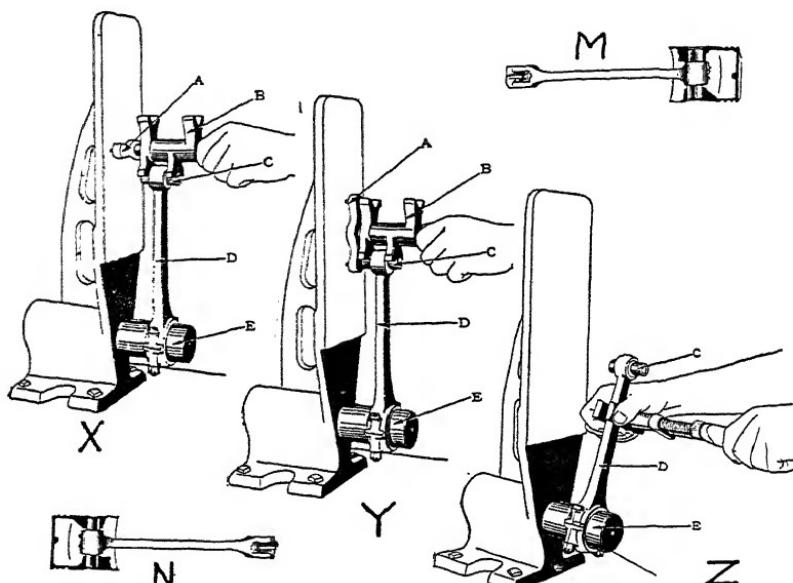

Fig. 15. X—Checking Rod for Twist
**Aligning Connecting Rods.** Connecting-rod aligning jigs are used in all shops. These are supplied in a variety of forms. The fixture shown at X, Y, and Z in Fig. 15 consists of an arbor E which is at right angles with the surface of the plate. The connecting rod to be tested is fitted on to the arbor. Jigs designed to be universal have varying sized arbors or sleeves which may be fitted over the arbor, so that any standard rods may be tested with one fixture. In Fig. 15, A points to a little device which is used to show twist
In testing for connecting-rod side bend or offset, the jig is used as shown at *Y* in Fig. 15 where the part of the fixture *A* has been turned at right angles to the former position shown at *A* in *X*. In this position the two dowels should engage the surface of the jig at exactly the same time, making certain of course that the part *B* is held in firm contact with the piston pin *C*. If the connecting rod is bent, the direction of bend will be indicated by whether the bottom or top pin strikes the surface first. In case the connecting rod is bent, it may be straightened by means of the monkey wrench, as shown at *Z*, after which the check-up shown at *Y* is repeated; and then if this shows O.K., the check-up shown at *X* is repeated to make certain that no twist has been placed in the rod while straightening it.
Abnormal offset is that which has been induced into the rod for some reason or other—mishandling or undue engine strain. In order to check up a rod to find out whether or not an offset exists which would give a condition similar to that shown at *M* in Fig. 15, the connecting rod should be mounted on the mandrel with the pin locked in position in the exact center. Place the end of the piston pin in contact with the surface of the testing jig. With a rule, carefully measure the distance from the connecting rod to the back of the fixture at the point where it is fastened on to the mandrel *E*. Make a notation of this and then reverse the rod on the mandrel and recheck. If there is an offset, this check-up will show it.
In order to remove offset, the rod must be bent at a point just above the big end and then it must be rebent at a point just below the piston pin. After this has been done, the check-up shown at *X* and *Y* in Fig. 15 must be repeated in order to see that there is no twist or bend left in the rod.